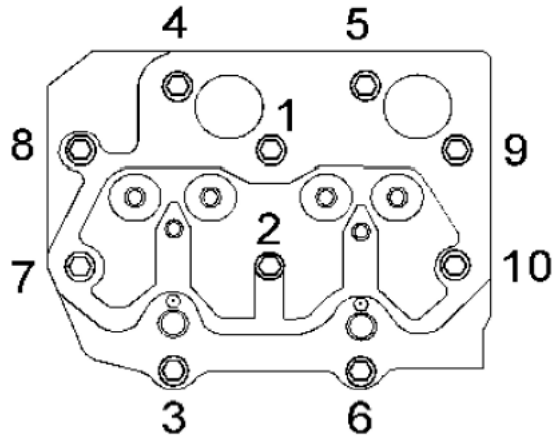

Figure 1. Head Bolt Torque Sequence
Put clean engine oil on the threads of the bolts. The bolts are tightened in the numerical sequence that is shown in Figure 1.
2. Repeat the procedure in step1 to ensure that all of the bolts are tightened to the correct torque and sequence shown in Figure 1.